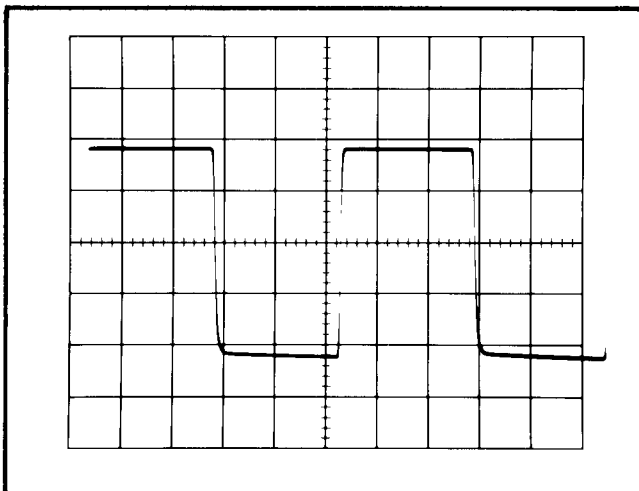

Fig. 6-3. Waveform obtained when compensation is correct.
f. Check—For a waveform having a flat top with not more than 5% of overshoot or ringing (see Fig. 6-3).